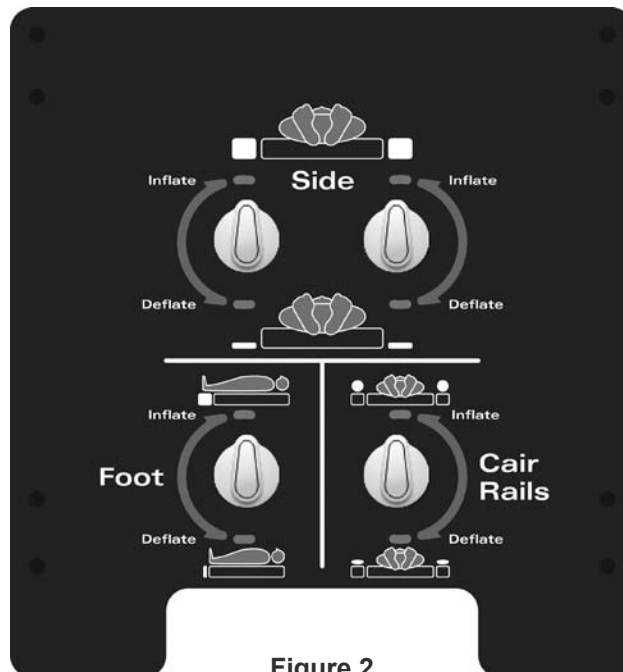

Figure 2
- If the therapy pad is not already on the mattress, attach it via the longitudinal zippers to the mattress. **Note:** This will require threading the hose set through the control window opening on the therapy cover located on the mattress side at the patient's left foot. Also attach the snaps around the control panel opening from the therapy cover to the mattress control panel in four (4) places so that the control panel is not obscured (Figure 2).
- The CairRails air bolsters can be inflated or deflated as required. Locate the control knob (Figure 2) on the lower right of the control panel on the mattress. Next, inflate/deflate the CairRails by moving the control knob to the up (inflate) or down (deflate) position.
6. Inflate the extension foot cells by turning the lower left knob on the mattress control panel (Figure 2) up. After 2-5 minutes the cells will inflate. Leave the knob in this position to maintain inflation.
For the Arise® 1000 EX mattress, the control unit can be disconnected from the mattress as the 3" foam base will continue to support the patient. If the Bari10A bed frame is to be reduced in width for transport it may be necessary to deflate the CairRails. This can be done at the mattress control panel (Figure 2, pg 10) by turning the lower right control knob down.